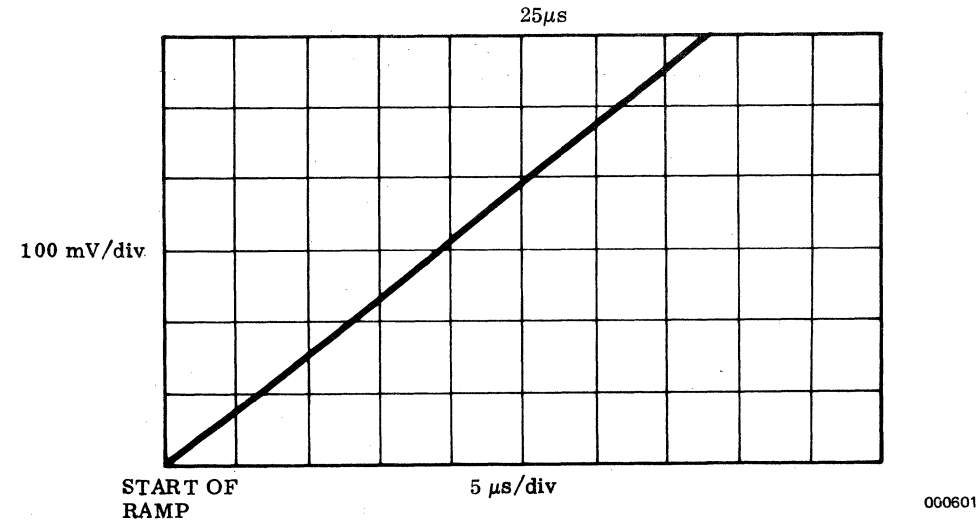

Figure 9-6. Ramp Gain Waveform
- With the oscilloscope set as in step d, adjust the setting of R267 (ramp gain) on pwa A2 to obtain the display indicated in Figure 9-6. (The figure does not indicate either the total ramp amplitude or duration. The object of the adjustment is to assure that the ramp reaches an amplitude of 400 mV in 25 μs .)